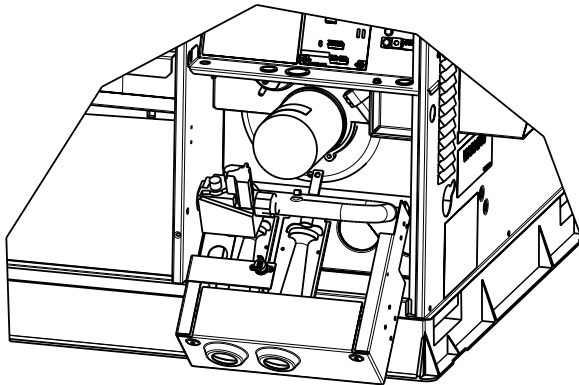

Fig. 20 – Burner Rack Removed
9. Slide the burner rack out of the unit (See Fig. 17 and Fig. 20).